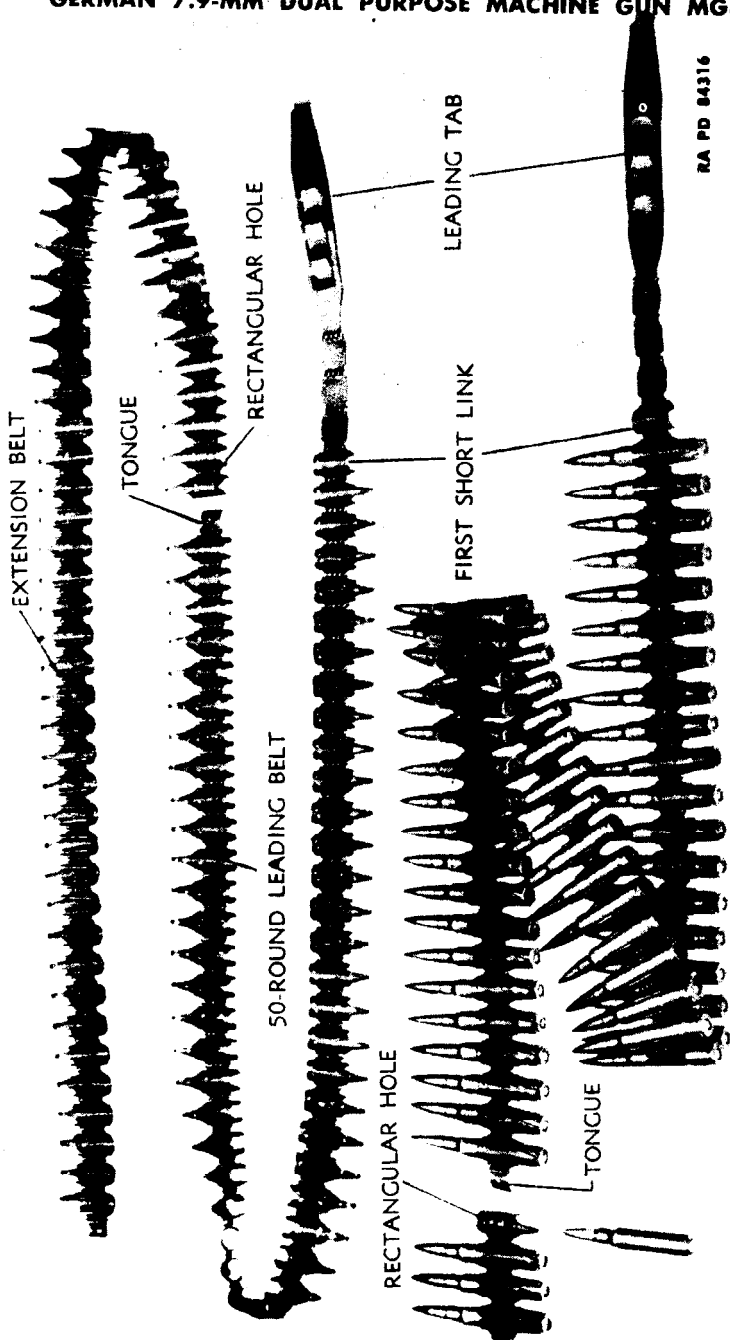

Figure 11 — Loading and Joining of Extension Belt and Leading Belt
(1) Place a 50-round leading belt on a flat surface, with the leading tab to the right and the tongues up. Insert a round into each link, and push it forward until the tongue snaps into the groove at the rear of the cartridge case (fig. 11).
NOTE: Do not insert a round into the first link. This link is short and has no tongue (fig. 11).
(2) The 50-round leading belt can be extended by joining it to 50-round extension belts. Fill a 50-round extension belt, but do not fill the first link having the rectangular opening (fig. 11). Insert the tongue at the end of the leading belt into the rectangular opening in the first link of the extension belt, and join belts by inserting a round (fig. 11). It is common practice to join as many as four extension belts to a 50-round leading belt.